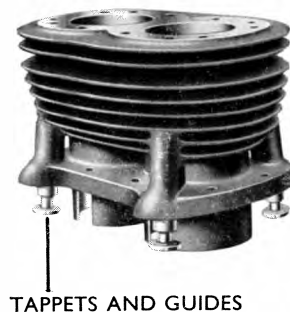

Fig. 7.
**The cast-iron cylinder block** is secured to the crankcase by a flange and eight accessible studs and nuts. A joint washer is used between the cylinder block and crankcase face. The flat base tappets are supported by cast-iron guides, a press fit in the block and retained by a spring steel circlip. A copper and asbestos washer is fitted between the cylinder block and cylinder heads and eight studs and nuts ensure a pressure-tight joint. (See Figs. 7 and 8.)